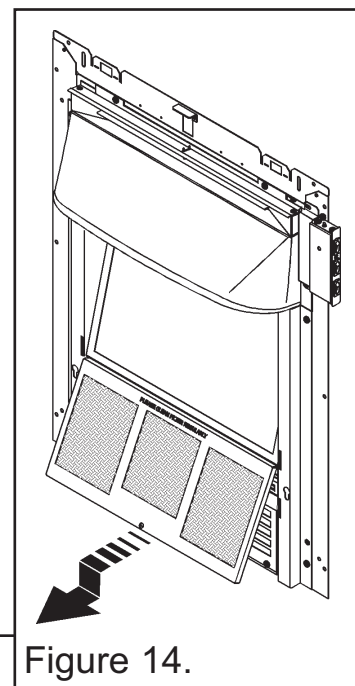
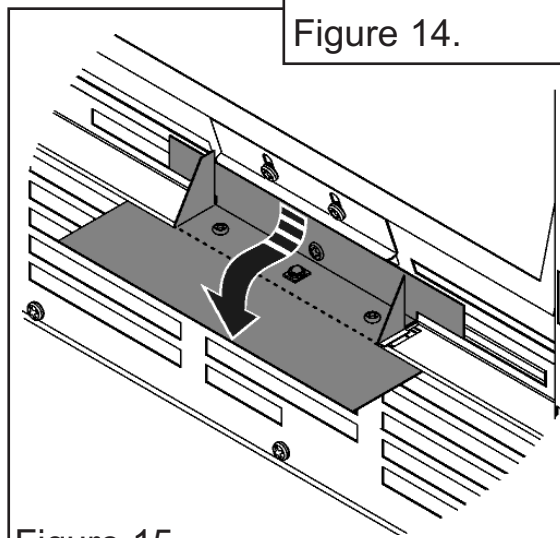

Figure 14.
Figure 15.
2. To gain access to the light shutter, unscrew and remove the thumbscrew from the bottom of the filter panel. Gently pull the base of the filter panel forward and down to remove it from the heater (See figure 14). There is a black card baffle in front of the light shutter; hold both sides and gently pull this forward to gain access to the light shutter (See figure 15).